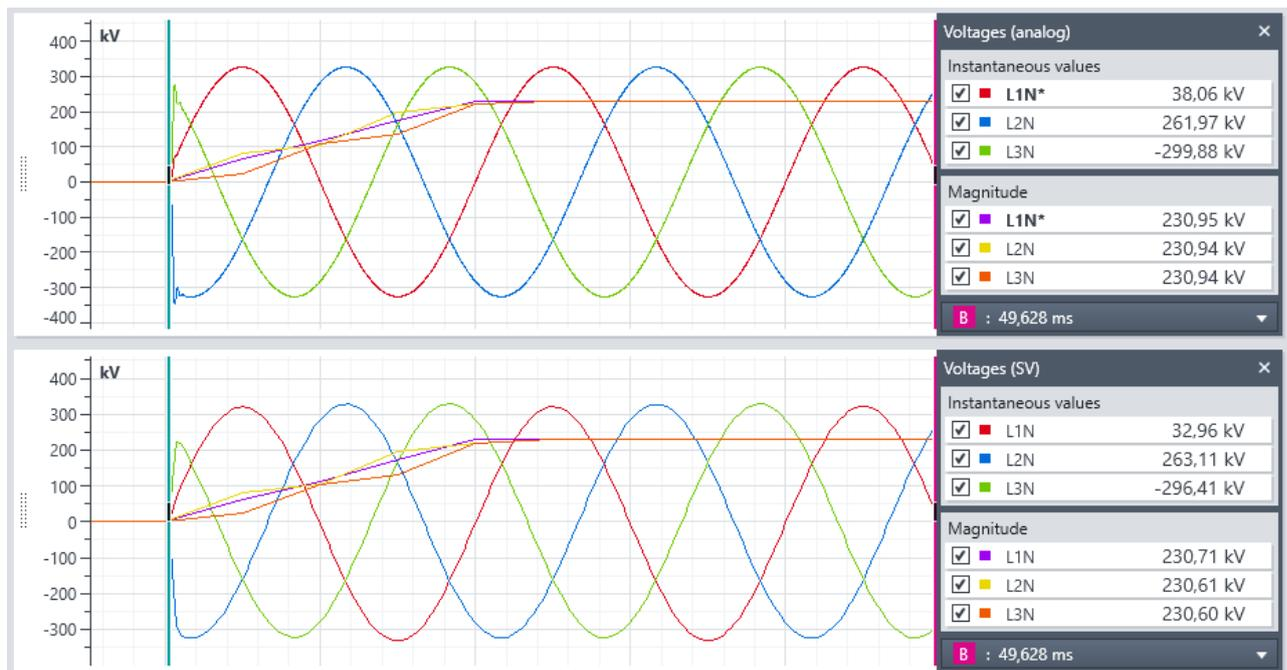

Figure 7: Measurement of analog input signal and Sampled Values output stream.
*EnerLyzer Live* allows to verify the correct general function of the device under test at first glance, as exemplarily can be seen in Figure 7: